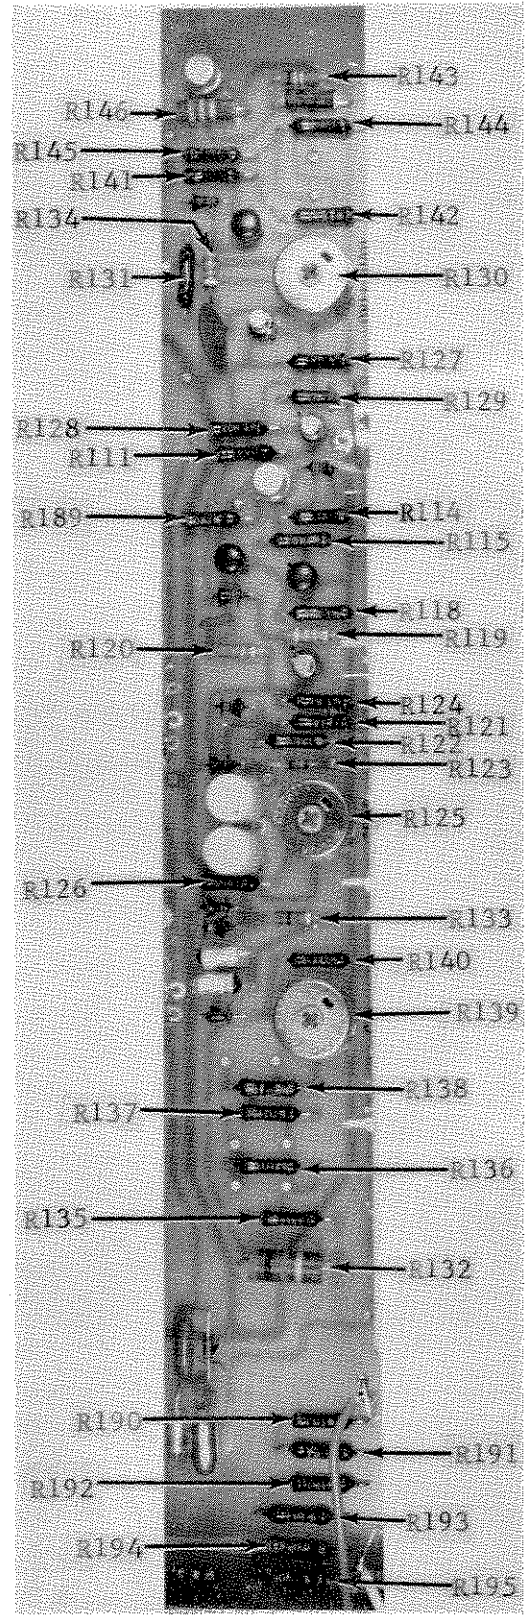

FIGURE 17. Resistor Locations on Front Section of PC-131.
Connect the Model 153 to the Model 246 OUTPUT Receptacle and set it initially to its 10-millivolt range. Adjust the ZERO potentiometer, R125 (Figure 17), for zero output ± 1 millivolt.
b. The Model 662 should read the Model 246 output to $\pm 0.5\%$. If necessary, adjust the output using the CAL potentiometer R139 (Figure 17). If the potentiometer does not have sufficient range, add or remove jumpers across resistors R136, R137 and R138 (see schematic diagram 21176E).
c. For a quick check, measure the output voltage at several different settings. Adjust the CAL potentiometer R139 (Figure 17) for minimum percentage deviation from the dial setting.
Adjust the CURRENT LIMIT potentiometer R130 (Figure 17) until the output current is 12.5 milliamperes ± 0.2 milliamperes.